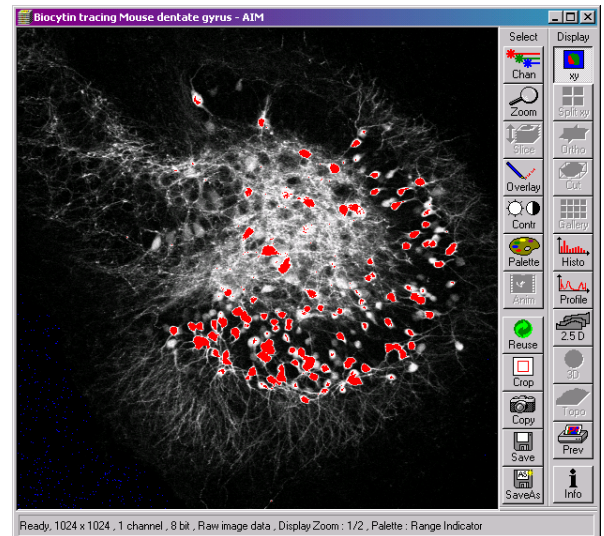

Fig. 19 Image window
- Select **Palette** in the **Image** window of the scanned image (Fig. 19).
The scanned image appears in a false-color presentation (Fig. 19).